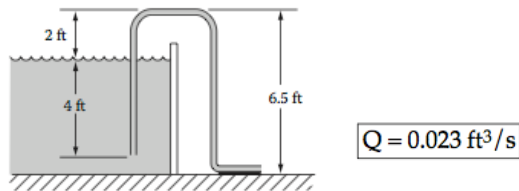

FIGURE P3.58
- 3.58** A garden hose is used as a siphon to empty a pool, as shown in Figure P3.58. The inside diameter of the hose is $\frac{1}{2}$ in. and the pool diameter is 12 ft. Find the rate of water discharge through the hose.